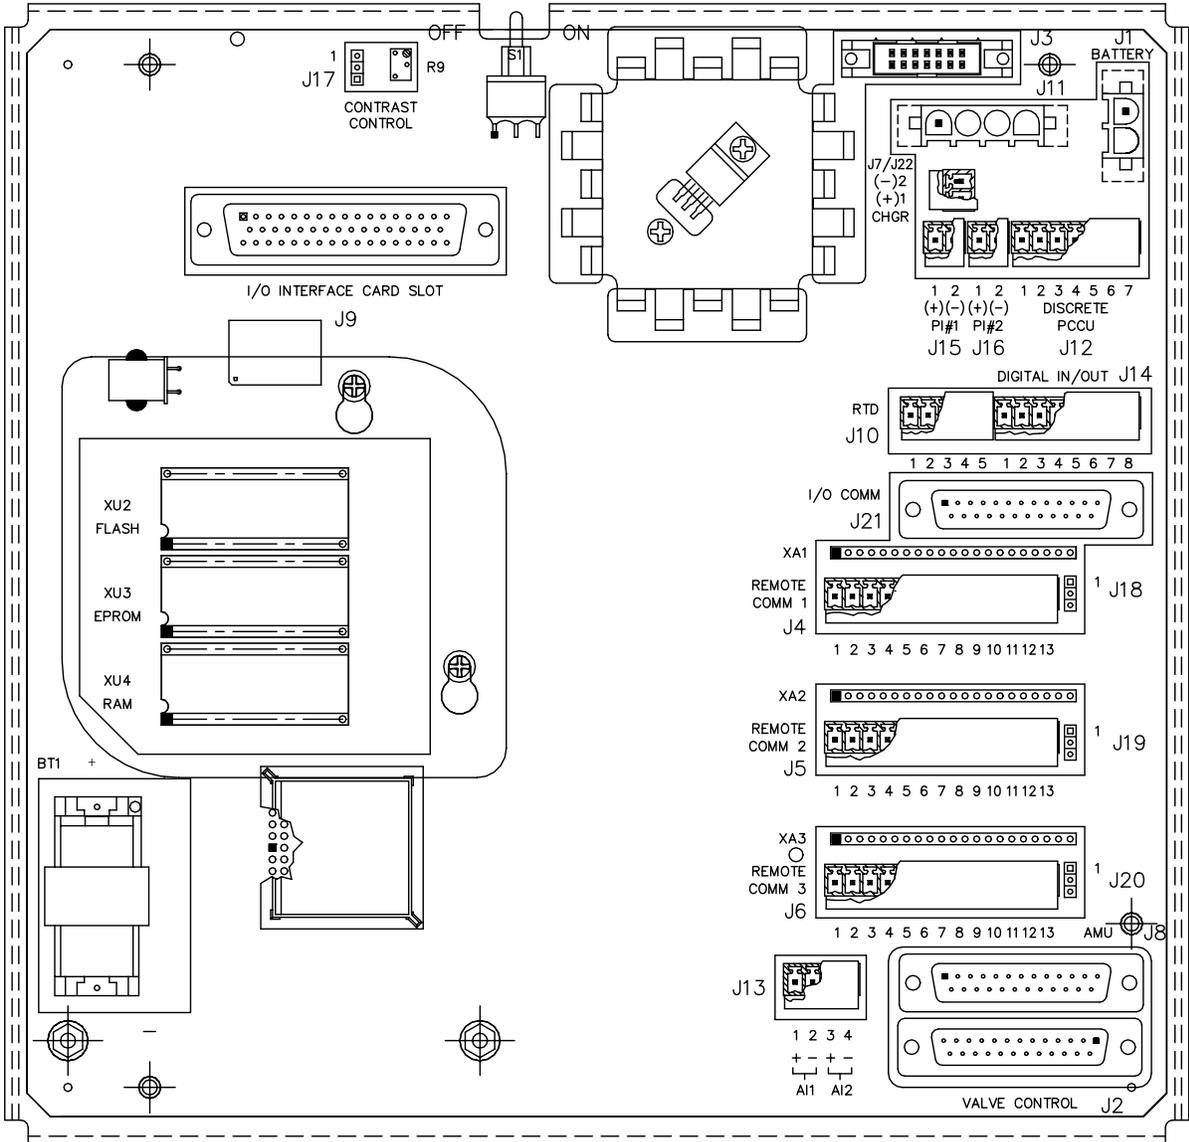

Figure 6-1. Digital Circuit Board Connector and Wiring Locations
Cold Start Procedures Figure 6-1 A cold start clears all the data that is stored in RAM as well as resetting all entered variables to their factory default values. Discretionary use of this procedure is advised.
6.	Reinstall Lithium battery BT1 in its Digital Circuit Board mount. During installation of battery, observe correct polarity. Refer to Figure 6-1.